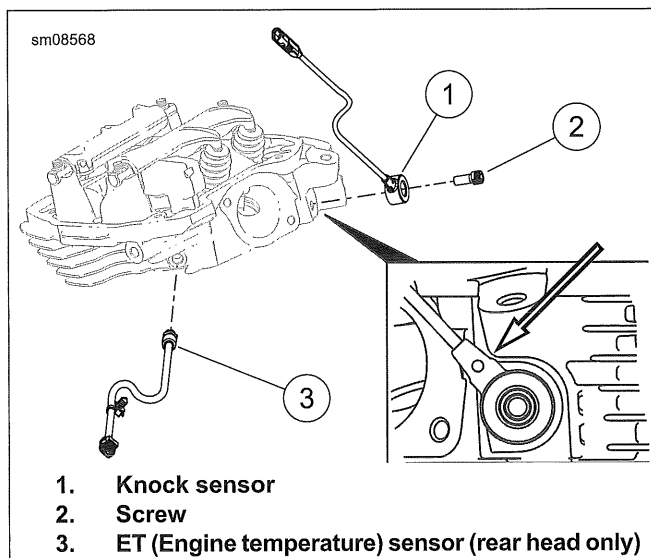
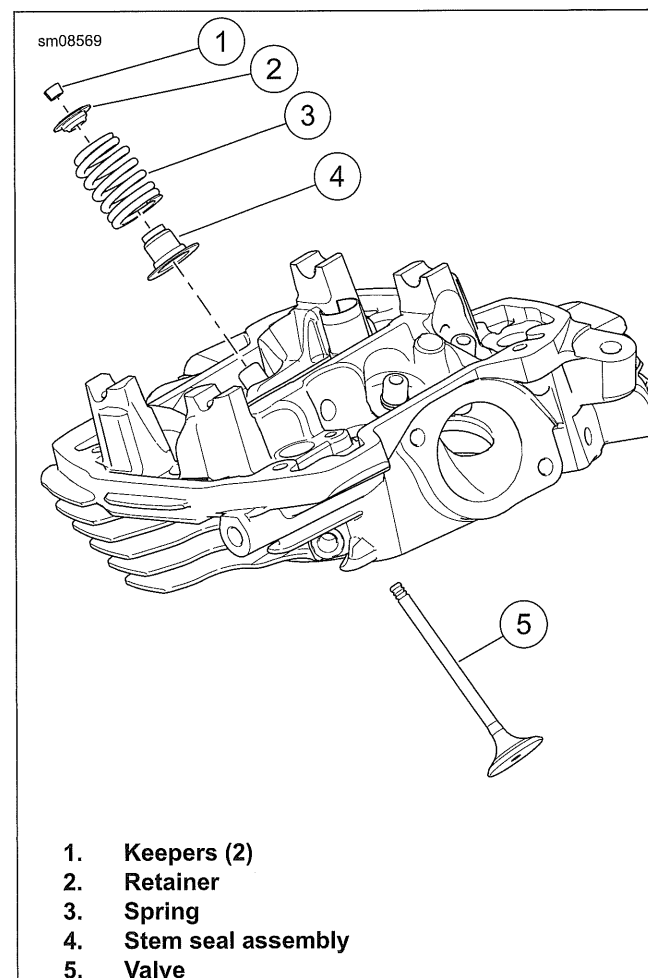

Figure 4-30. Cylinder Head Sensors
Figure 4-32. Valve Components
- b. Turn 12 mm end of CYLINDER HEAD HOLDING FIXTURE (PART NUMBER: B-49312) (1) into cylinder head (2) spark plug hole.
3. See Figure 4-30. Remove screw (2) and knock sensor (1).
4. Remove cylinder head temperature sensor (3).
5. See Figure 4-32. Remove valves.
4. See Figure 4-32. Install valve spring.
- b. Install the valve spring (3) with the smaller diameter coils topside.
- c. Place the spring retainer (2) on top of the valve spring.